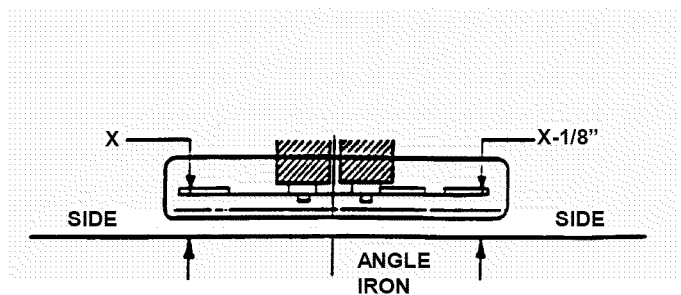

FIGURE 4.4
3. Rotate outside blades so tips are pointed to the sides of deck. See Figure 4.4. Measure the distance from blade tips to floor. If the measurement is within  $1/8$ " from side-to-side, the deck levelness is satisfactory. If the difference from side-to-side is greater than  $1/8$ ", continue to Step 4 for adjustment.